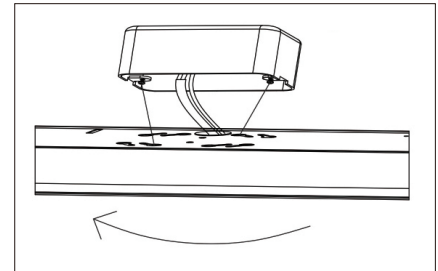

Figure 10
- i. Attach the lamp base to the junction box by aligning the holes on the lamp base (A) with the screws on the junction box.
- j. Turn lamp base clockwise to lock in place and tighten screws to ensure the fixture is secure and will not move. (Figure 10)